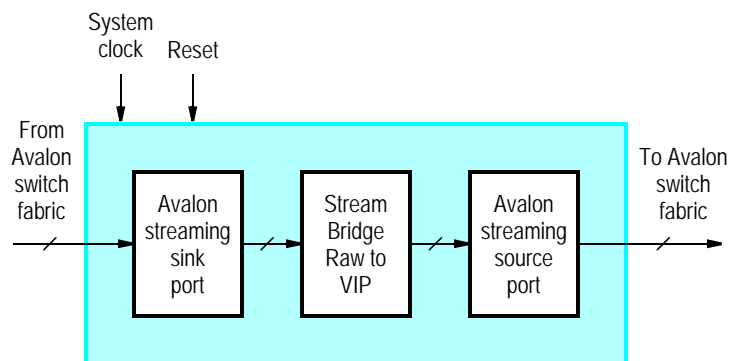

Figure 61. Video-Stream Bridge: Raw to VIP core's block diagram.
The Raw-to-VIP bridge takes an input stream in the University Program (UP) video stream format and converts it to the VIP format. Then, the VIP-formatted data is outputted via the Avalon streaming source interface. Figure 61 shows a block diagram of the core. The UP video stream format is essentially raw video data, as described in Section 3.2.